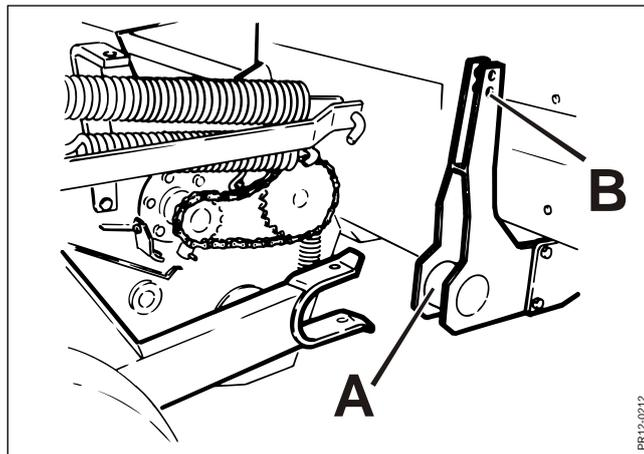

Fig. 3-5
**Fig. 3-5** Wheel the pick-up on the rollers to the machine so that the catch **A** is engaged. Mount the 2 pins in order to fix the pick-up to the base machine. Attach the relief device to the pick-up at **B**.